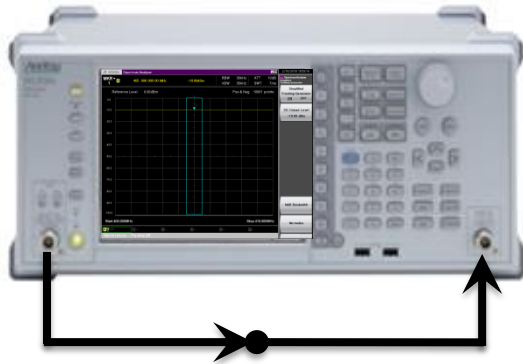

Fig. 1
■ Connecting cables for calibration as shown in Fig. 1 and executing Normalize